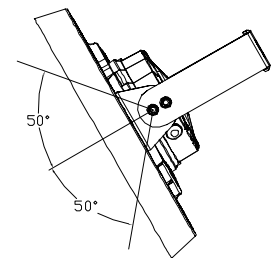

FIGURE 7
4. After installation, connect the wire of the fixture to the mains according to local wiring rules, ensure the connection is stable and make good protection on connection. By adjusting the brackets screws, user can adjust 50° to the left or right vertically (Figure 7).